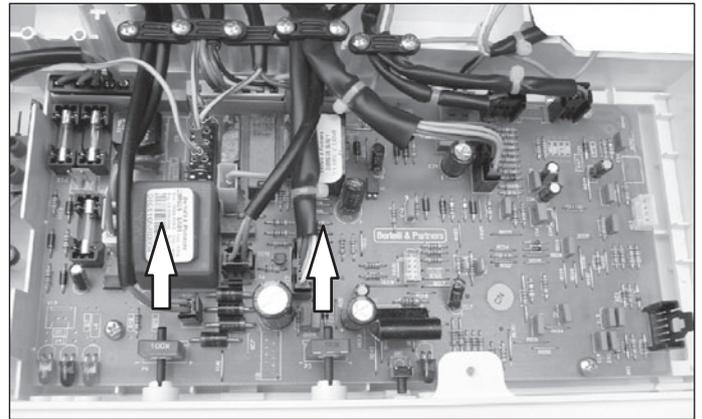

Figure 9.21
- Remove the spindles of the c.h. and d.h.w. temperature adjustment knobs by delicately pulling them with pliers in the direction shown by the arrow in Figure 9.21.